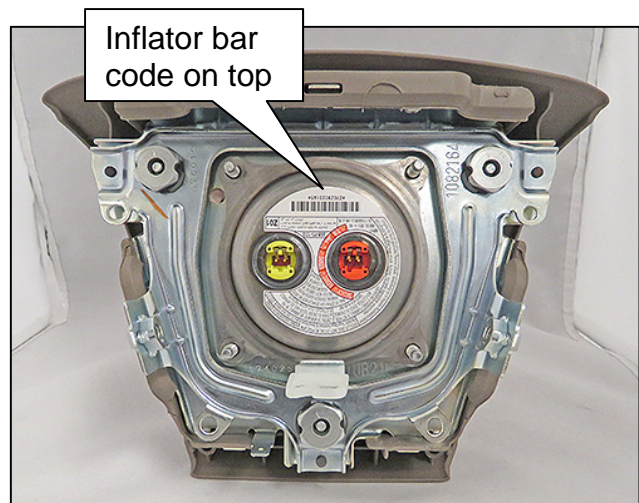

Figure 10
10. Install the new inflator into the module as shown in Figure 10.